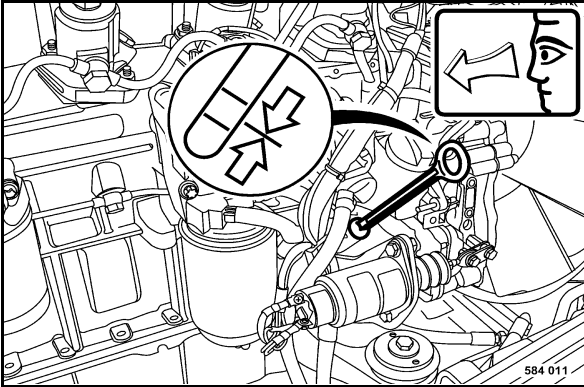

Fig. 143
- After a short test run check the oil level on the dipstick (Fig. 143). The oil level should reach the MAX-mark, top up oil if necessary.